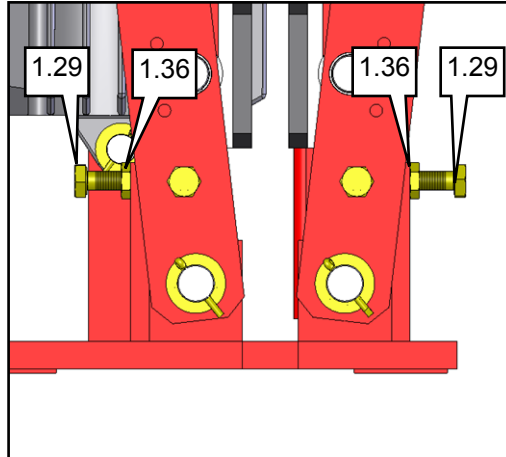

Fig. 2:
- The brake disc's outer diameter must exceed the brake pads 5 mm (Fig.2 - right)